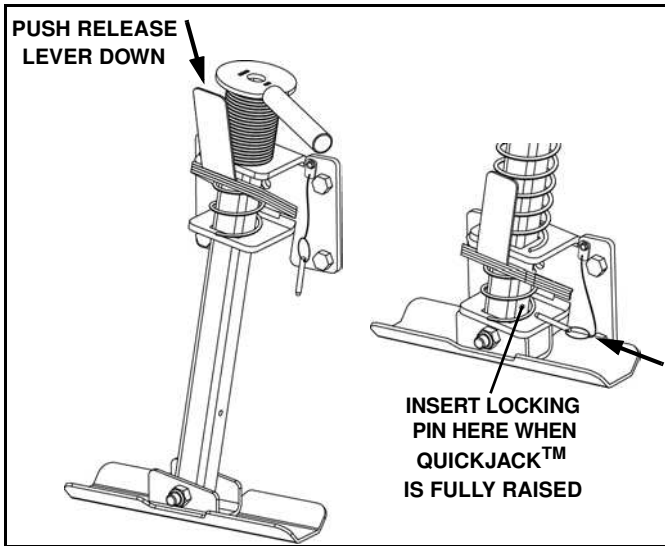

Figure 1-36
37. Raise QuickJack™ foot by pushing down on its release lever. Insert the locking pin in the QuickJack™ tube to prevent the jack from dropping during transport or plowing operations. (See Figure 1-36).